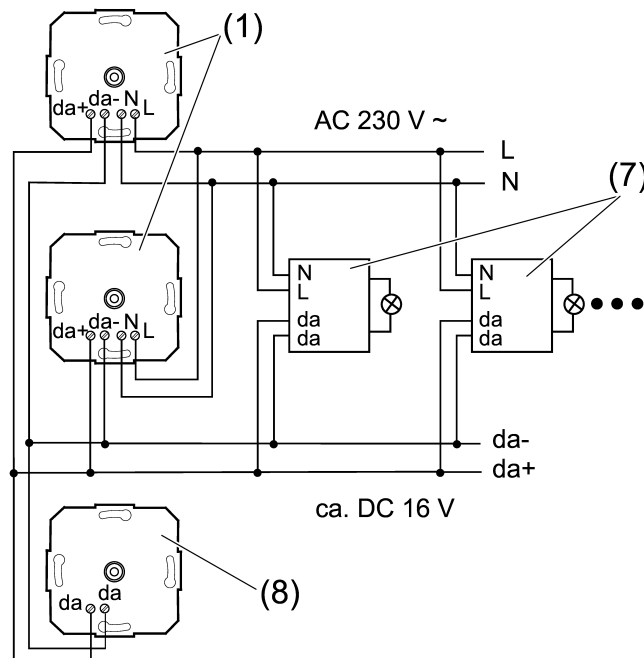
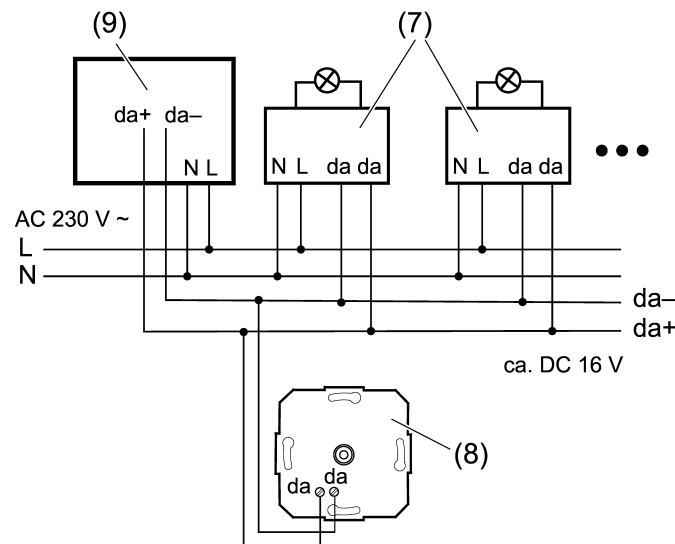

Figure 3: Broadcast mode connection example
Figure 4: Connection diagram, operation as input device
- Connect Power DALI-2 rotary controller TW, DALI-2 rotary controller TW and DALI electronic ballast according to the connection examples (see figure 3) and (see figure 4). In so doing, observe the data of the electrical ballast manufacturer.
- i** A combination of Power DALI-2 rotary controller TW and an external power supply is not permitted. If an external power supply is used, e.g. via a central control unit, the power supply must not be connected to the rotary control device (see figure 4).